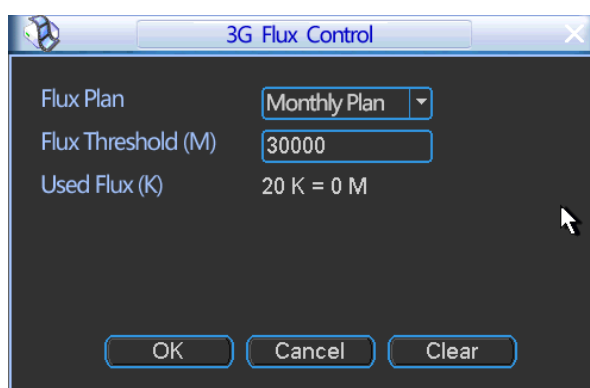

Figure 3-12
- 3G flow control: It is to show the 3G flow you used. See Figure 3-12.